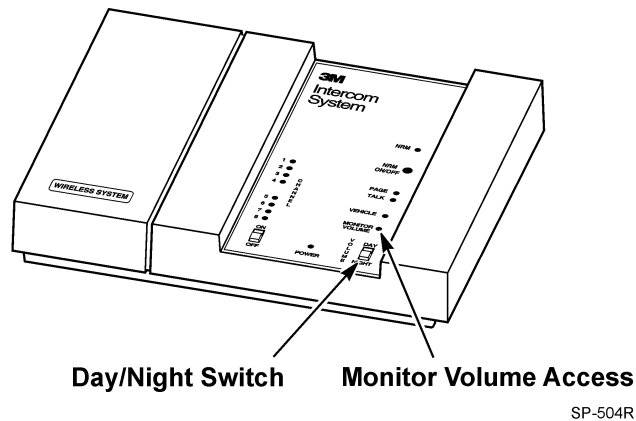

Figure 19.
Outdoors, sound travels best at night when air temperatures are cooler and background noise is reduced. To allow you to reduce the volume of the menu sign speaker to a lower, pre-set nighttime level, the base station has a VOLUME DAY/NIGHT switch. See Figure 19.
1. With the base station turned ON, insert a small straight-blade screwdriver into the MONITOR VOLUME access hole. See Figure 19.